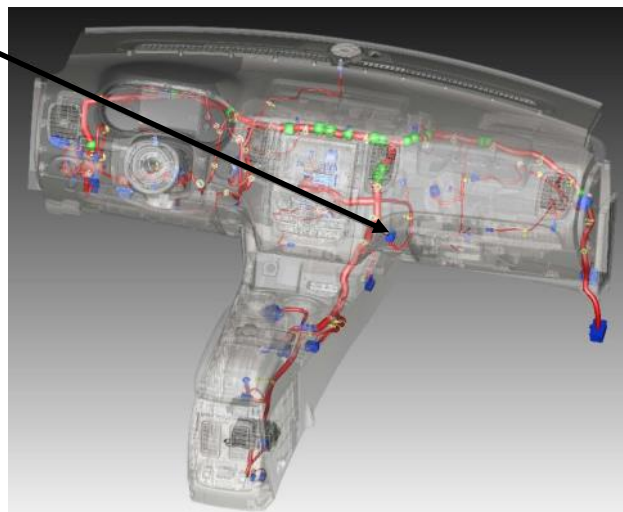

Figure 1
The 2018+ Durango has a "Gateway" module connected to the OBDII connector. The module is located in the underdash in the front passenger area (see Figure 1). The C-FIM data link harness T's into an 8-pin and 12-pin connector on this gateway module.
2. Locate the Gateway module in the location shown in Figure 1.